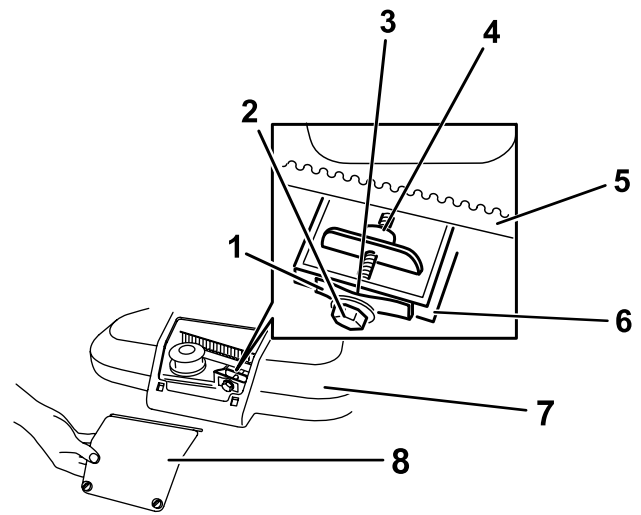

Figure 28
1. Loosen the 2 screws on the belt-cover-access panel and remove the panel (Figure 28).
Note: If there is a visible gap between the gauge and the spring, tighten the adjusting bolt and the nut until the feeler gauge barely slides freely in and out of the gap (Figure 28).